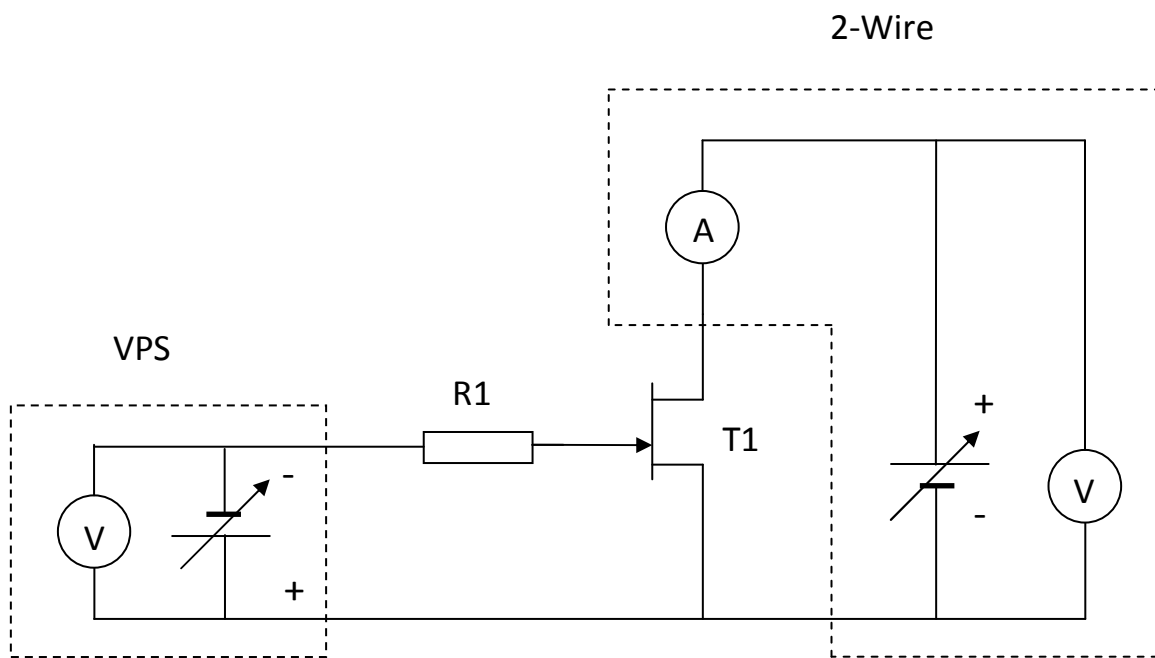

Fig. 3.2. Scheme of measurement setup used to determine output characteristics.
- 4.2. Arrange the measurement setup from Fig.3.2. Value of  $R1=10\text{ k}\Omega$ . Change  $U_{DS}$  within 0-10 V range with step of  $\Delta U_{DS}=0.05\text{ V}$ , current limitation +20 mA (2-Wire),  $U_{GS}$  range 0- $U_p$  with step of 0.2 V (-VPS). With the use of „log” option, save appropriate output characteristics of j-FET transistor obtained at different  $U_{GS}$  values.